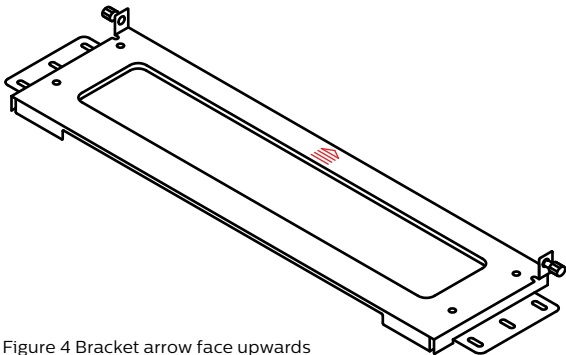

Figure 4 Bracket arrow face upwards
- 4 Lock the switch using the screws in the red circles (see figure below and Figure 4).